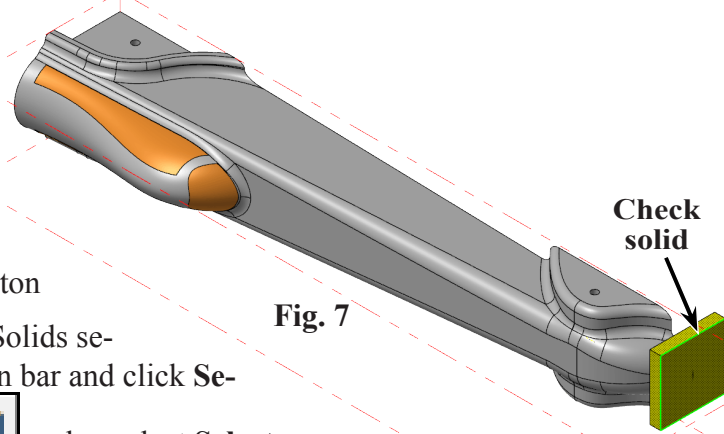

Fig. 7
Step 6. Click the **solid check body**, Fig. 7.